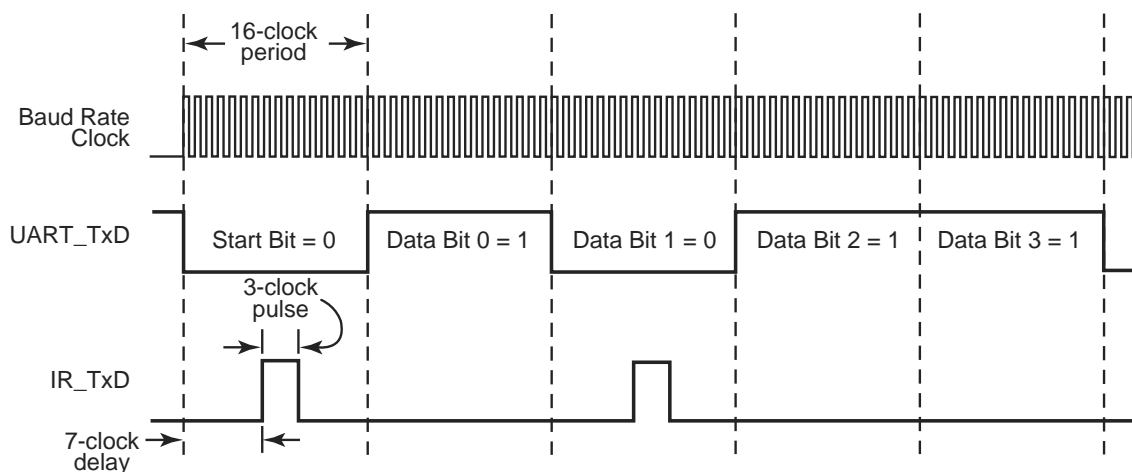

Figure 38. Infrared Data Transmission
The data to be transmitted via the IR transceiver is the data sent to UART0. The UART transmit signal, TxD, and Baud Rate Clock are used by the endec to generate the modulation signal, IR_TxD, that drives the infrared transceiver. Each UART bit is 16 clocks wide. If the data to be transmitted is a logic 1 (High), the IR_TxD signal remains Low (0) for the full 16-clock period. If the data to be transmitted is a logic 0, a 3-clock High (1) pulse is output following a 7-clock Low (0) period. Following the 3-clock High pulse, a 6-clock Low pulse completes the full 16-clock data period. Data transmission is shown in Figure 38. During data transmission, the IR receive function must be disabled by clearing the IR_RxEN bit in the IR_CTL reg to 0 to prevent transmitter-to-receiver crosstalk.